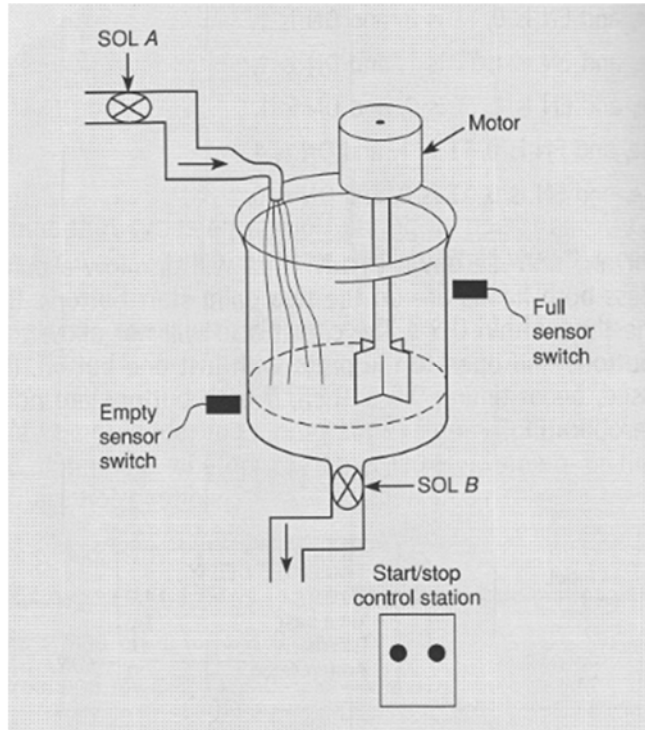

Figure 2(b)
- (b) Design a PLC program and prepare a typical I/O connection diagram and ladder logic program for the application as shown in Figure 2(b). The sequence of operation goes as follows: